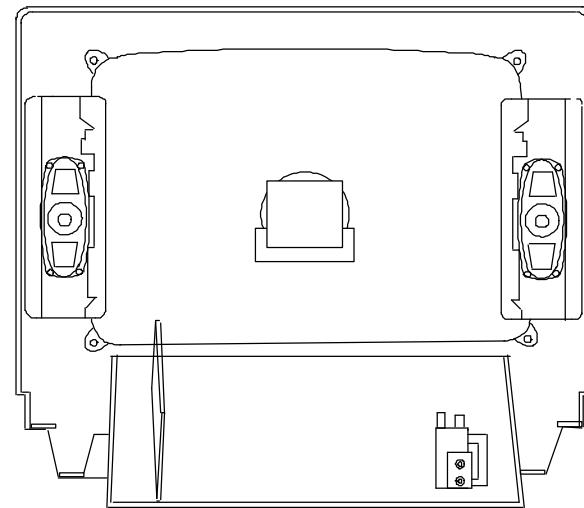

Fig.5
1. To place the chassis into service position hold and lift the rear of the E-PCB chassis and gently pull the chassis toward you as shown in Fig.5.